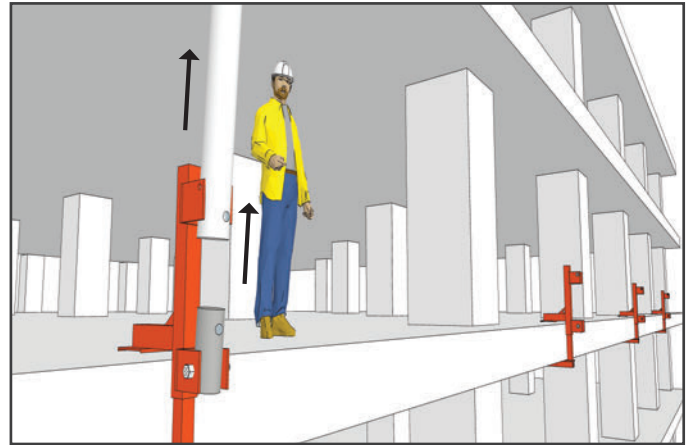

Fig. 10
1. From 2 floors above bracket level, lower (2) tag lines and attach to eyenuts on top of pole.
2. Slowly lift pole into vertical position above bracket and swivel coupler. (see figure 10)